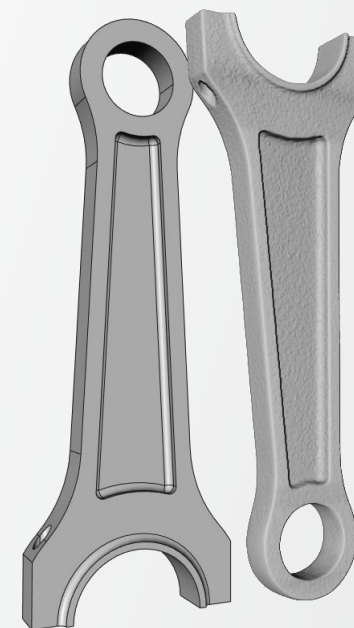

Fig.1
- ensure that both the CAD data and X-ray CT data are present in the Project View. It is useful to visualise both datasets as shown in Fig.1.